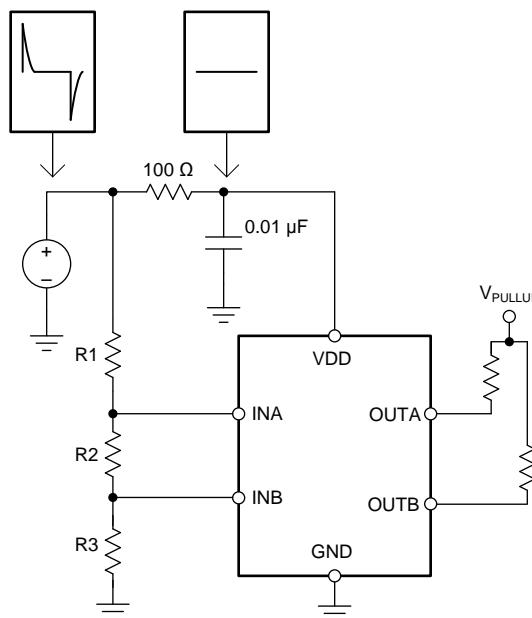

Figure 27. Using an RC Filter to Remove High-Frequency Disturbances on VDD
The TPS3701 has a 40-V absolute maximum rating on the VDD pin, with a recommended operating condition of 36 V. If the voltage supply that is providing power to VDD is susceptible to any large voltage transient that may exceed 40 V, or if the supply exhibits high voltage slew rates greater than 1 V/μs, take additional precautions. Place an RC filter between the supply and VDD to filter any high-frequency transient surges on the VDD pin. A 100-Ω resistor and 0.01-μF capacitor is required in these cases, as shown in Figure 27.
- Avoid using long traces for the VDD supply node. The VDD capacitor (C_{VDD}), along with parasitic inductance from the supply to the capacitor, may form an LC tank and create ringing with peak voltages above the maximum VDD voltage. If this is unavoidable, see Figure 27 for an example of filtering VDD.